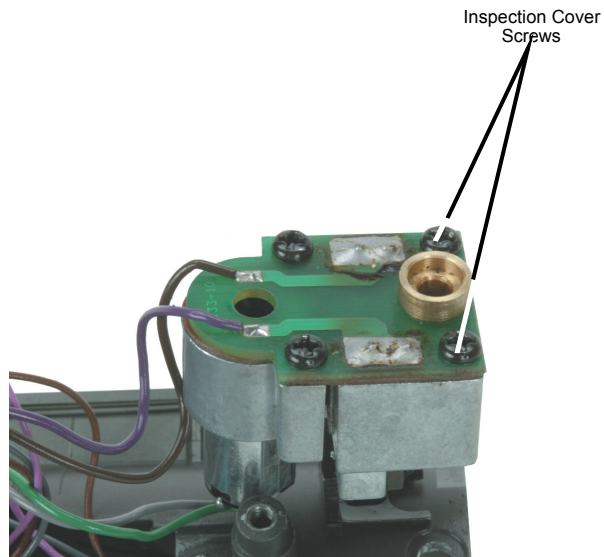

Figure 11
1. Once the boiler has been removed, remove the inspection cover (Fig. 11). Inspect the wick; if it is darkly discolored and hard, it should be replaced.